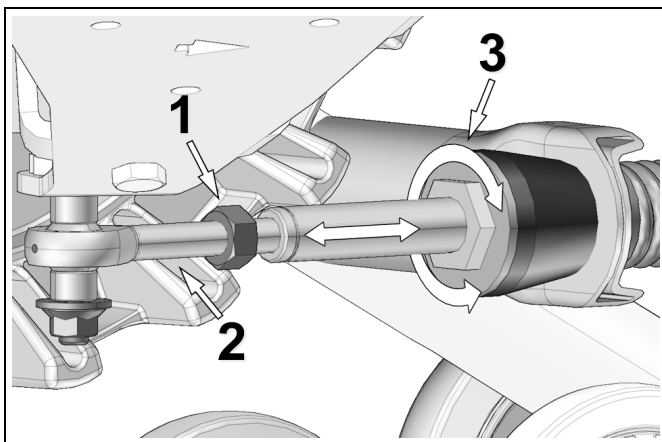

Figure 6
- Loosen jam nut (1). Adjust length of rod end (2) by rotating the stabilizing arm (3) to obtain **254 mm [10 in.]** above the ground. Refer to Figure 6.